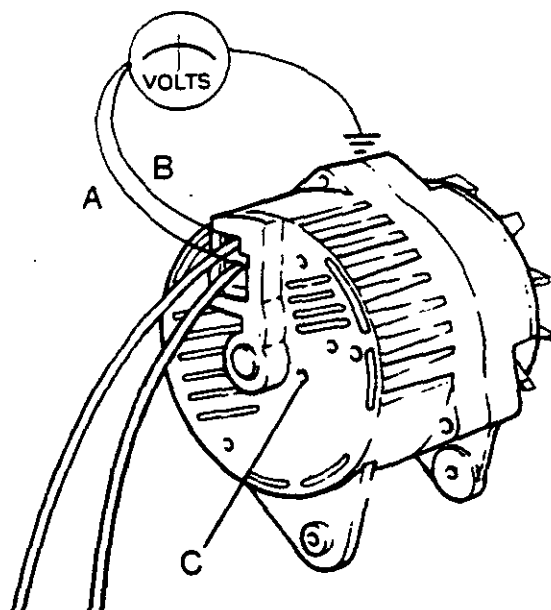

Figure H17
2. Put the special rod shown in Figure H16 in through the test hole C shown in Figure H17.